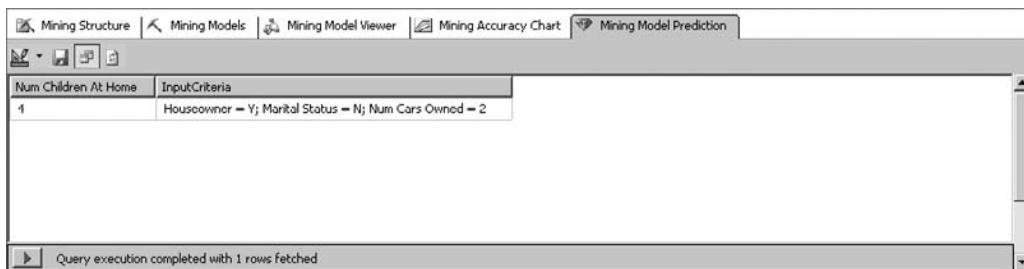

Figure 15-16 The singleton query result set in the result view
14. The result view is displayed, as shown in Figure 15-16. The model predicts that someone who is a homeowner, is not married, and owns two cars will most likely have four children at home.